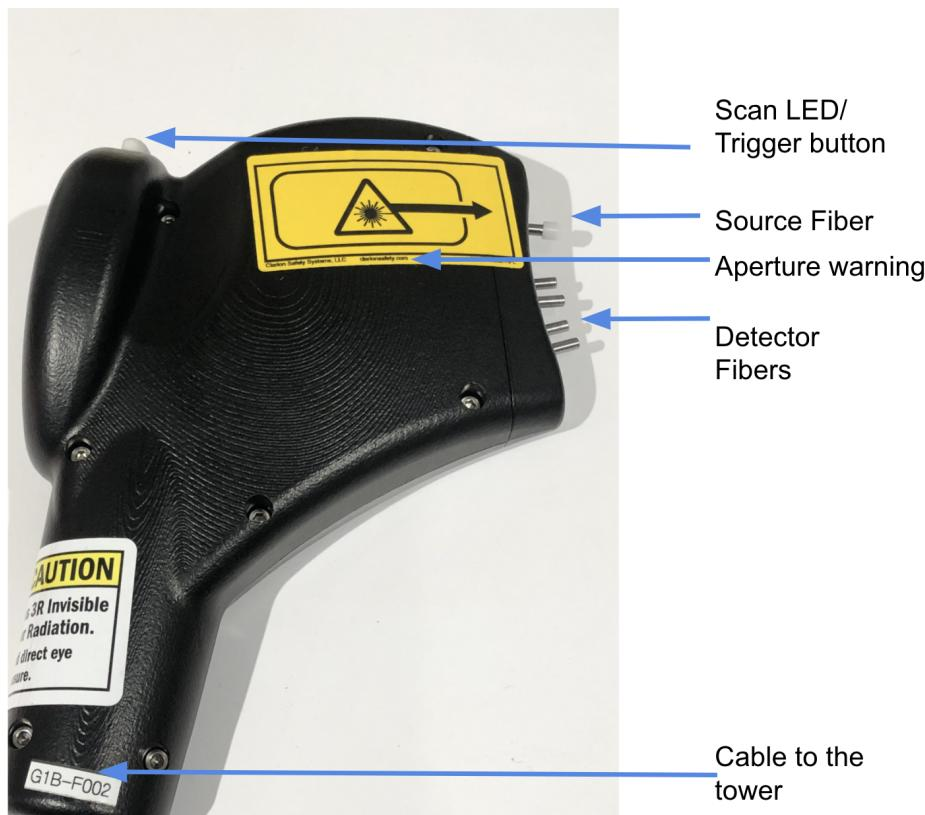

Fig 9: Parts of the wand
- The Trigger button is the white plastic protruding from the top, as indicated by the figure above (Fig 9). Depressing the trigger button when the system is ready to emit light (when in calibrate/scan mode) initiates the emission of light from the source fiber, and releasing it stops the emission. The trigger switch also serves as an indicator to display the status of the system, via the Scan LED.